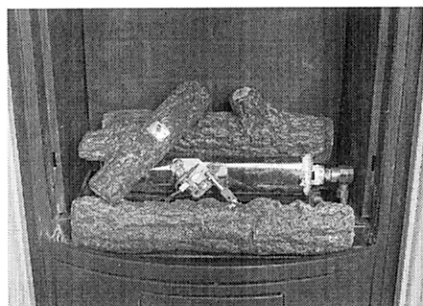

Figure 9
- Insert the pinhole on the upper side of log 4 into the pin on the right side of log 1. Place the lower part on the flat roof at the right side of log 2 (Figure 9).